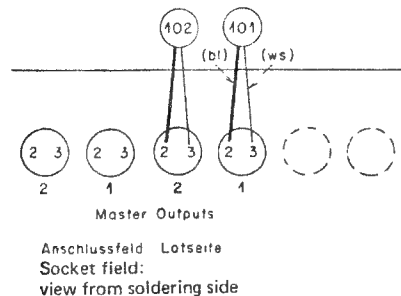

Fig. 6.2.-4
- Screw on correlator meter and wire according to fig. 6.2.-5.